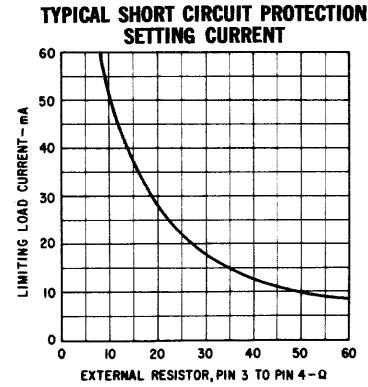

FIGURE 3
- (3) Selection of Short Circuit Current: The maximum limit on the internal short circuit protection at any current from 1 to 50 mA can be set by externally connecting a pre-selected resistor (see figure 3) between pin 3 and pin 4.
- (4) This pin is made available for connections to compensating networks which can be used to alter the dynamic response of the regulator to meet unusual load requirements. No connection is necessary for normal operation.